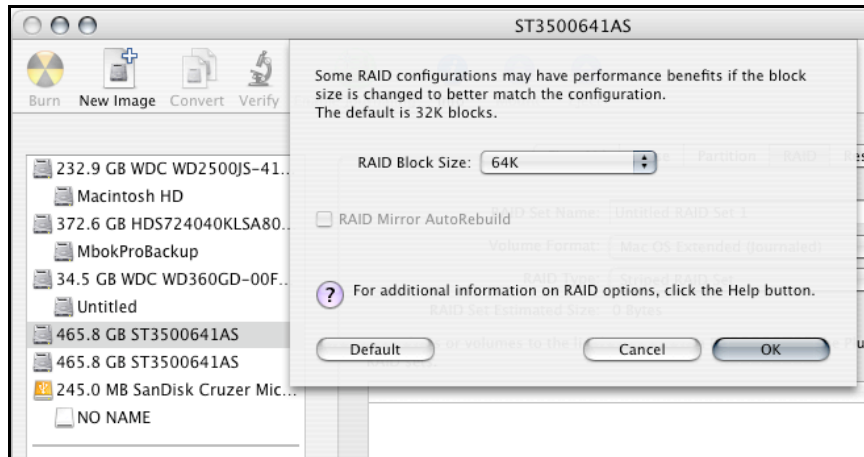

Figure 11: Selecting a RAID Block Size
- For *Volume Format*, the default choice is "Mac OS Extended (Journaled)". Note: For Mac OS X 10.5.x and later users can select the RAID block size. For best performance push the option button and select a RAID block size of 64K or 128K (Figure 11).